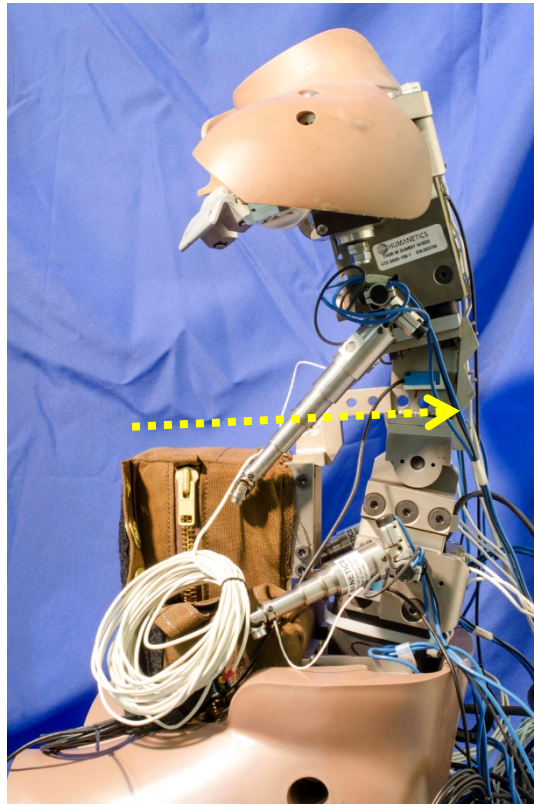

Figure 8-16. Slide upper abdomen into thorax
- 8.2.3.1 Position the Spinal Mount Bracket Assembly (472-4610) arms on either side of the Lower Thoracic Spine Welded Assembly (472-3660) and carefully slide the upper abdomen into the dummy's thorax (Figure 8-16).